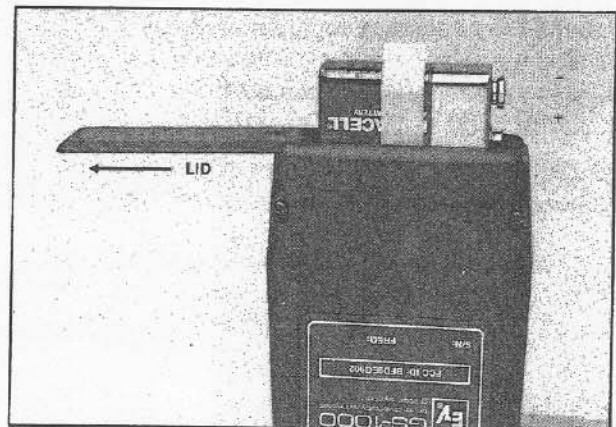

Figure 4 - Install 9-Volt Alkaline Battery into Transmitter, Positive (Smaller) Terminal in First
- 1) **Slide the cover of the transmitter battery compartment in either direction, until it is completely off.** Pull the clear-plastic battery-removal tab away from the opening and **slide a fresh 9-volt alkaline battery into the battery compartment, with the positive (smaller) terminal in first.** Push the battery all the way in gently, hold the battery-removal tab against the battery, and slide the cover back into place (Figure 4).